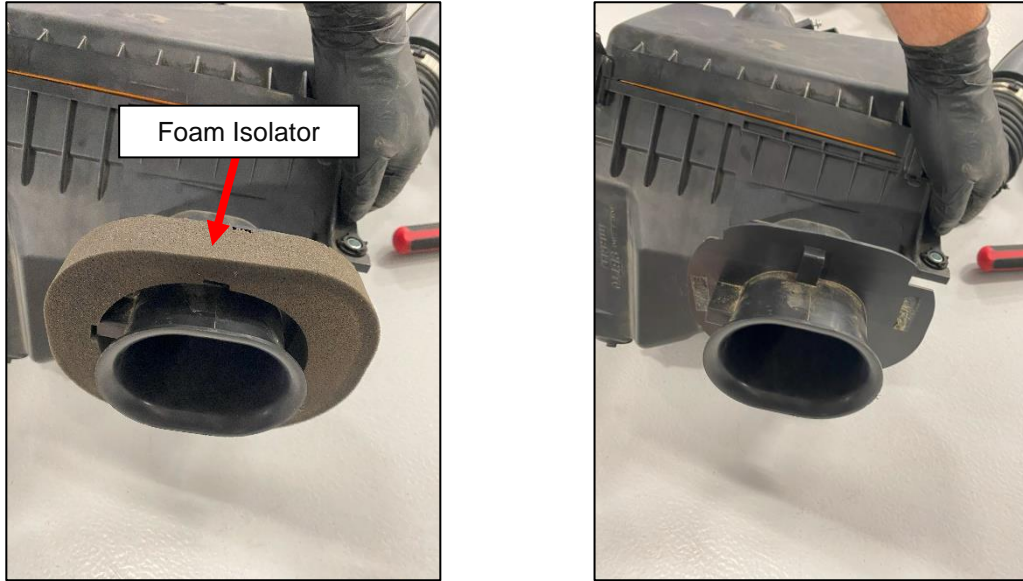

Figure 19
29. Locate the OE Airbox. Remove the Foam Isolator from the flanged section of the Airbox. *Figure 19.*